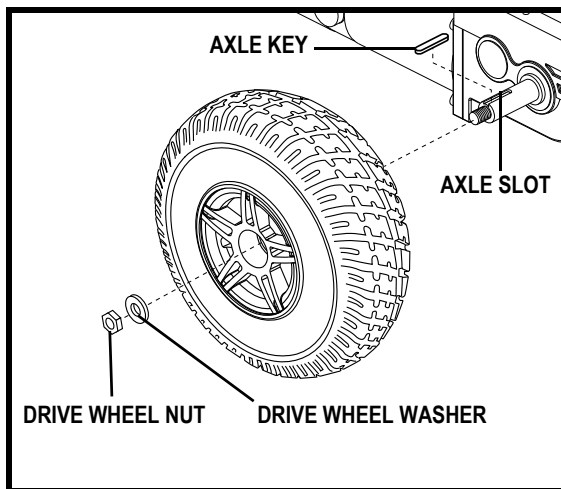

Figure 29. Drive Wheel Assembly
4. Remove the drive wheel nut and washer from the axle. **See figure 29.**
19. Connect the wiring harnesses to the front battery. **See figure 29.**